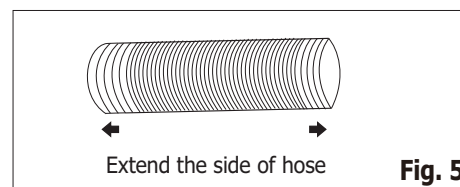
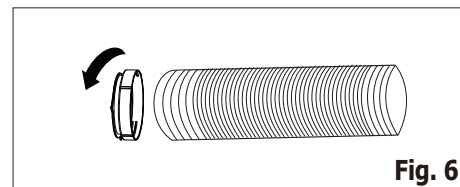

Fig. 5
Fig. 6
3. Extend either side of the hose (Fig. 5) and screw the hose to adaptor A (Fig. 6).